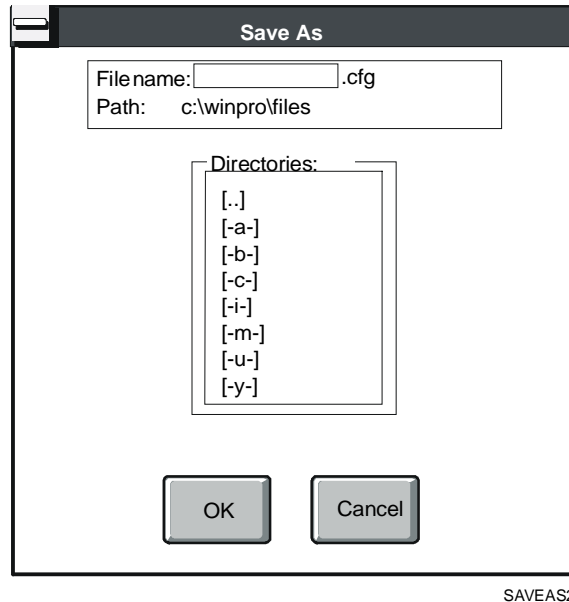

Figure 2-7: Save As Dialog Box
4. Click OK with a valid device highlighted. The Save As dialog box appears (Figure 2-7).